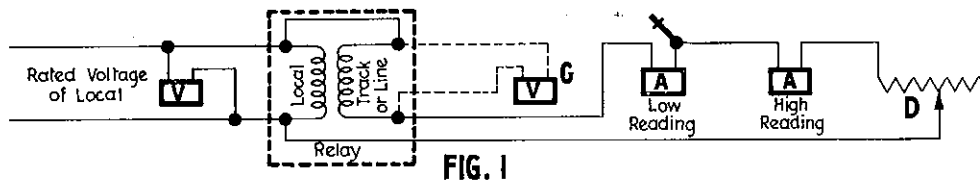

FIG. 1
- 23 Methods for making pick-up, working, drop-away and phase angle tests of various types of relays are shown on Page 4, Figs. 1 to 8 inclusive.
- 24 The method of test as shown in Fig. 1 provides for a phase angle between currents in the local and track or line windings of the relay, approximately equal to the phase angle between the voltage and current of the local winding. This shall be known as the test phase angle of the relay and these values may be translated to any phase angle desired by multiplying by proper factor obtained from curves shown on Page 4, Fig. 8.
Tests made in accordance with Dwg. 40 (Pg. 4) Fig. 1